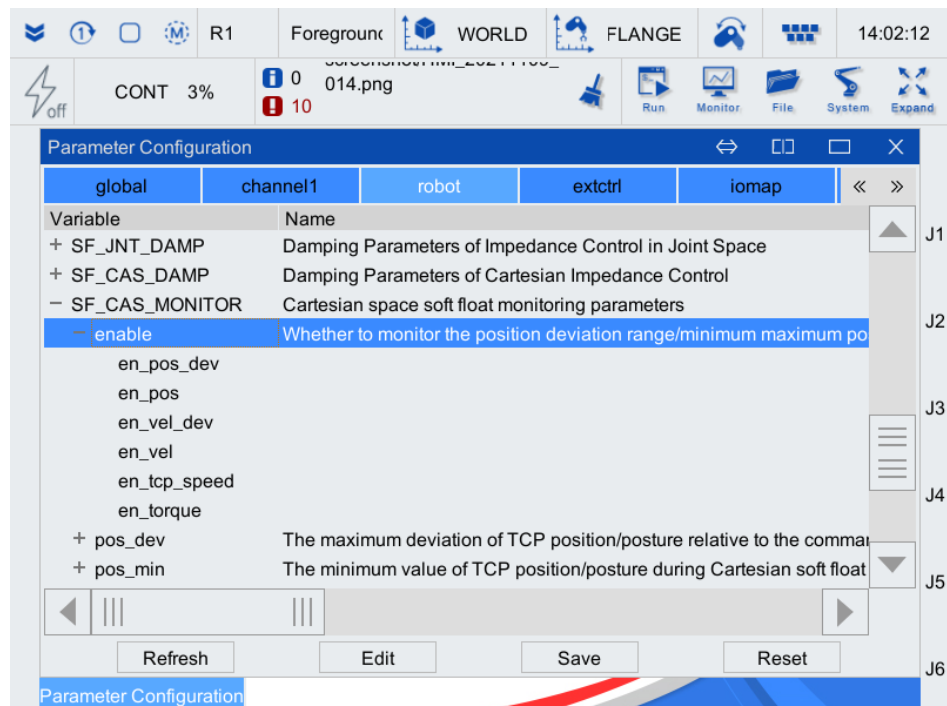

Figure 4-15 Cartesian space soft float monitoring parameter configuration interface
Step1. In the [Robot] interface, click the [+] before [SF\_CAS\_MONITOR (Cartesian space soft float monitoring parameter)] to display the parameters that need to be configured. As shown in Figure 4-15, the parameter description is shown in Table 4-7.